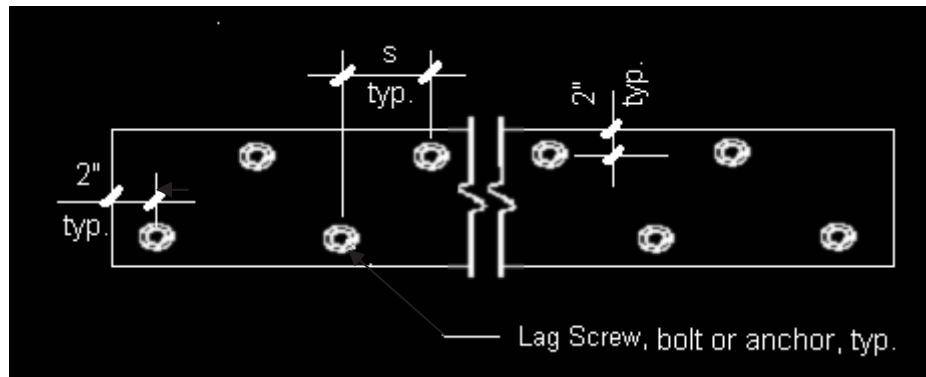

FIGURE 16: Residential Deck Ledger Board Typical Anchor Layout
Ledger board anchors shall be spaced to comply with Table 5 and Figure 16. All fasteners shall be installed with washers complying with General Note 2 and must be thoroughly tightened. The adequacy of connections shall be verified by the City Building Inspector at the time of the framing inspection. If a ladder is required to access the ledger board, **the permit holder shall have a ladder available on site for the City Building Inspector.**
- e. Lag screws and bolts shall be staggered as set out in Figure 16.